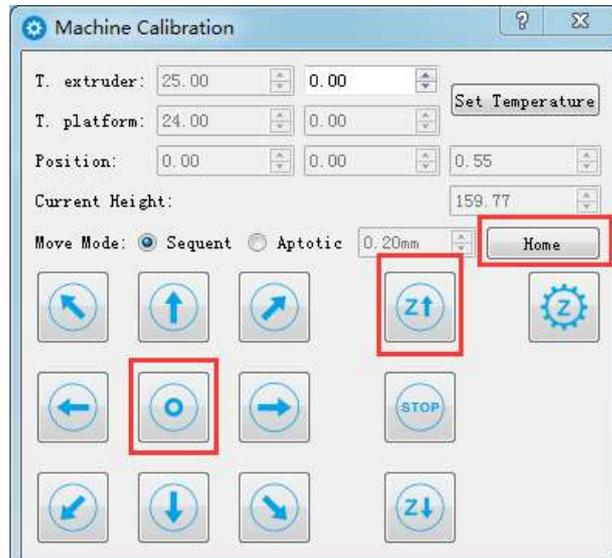

Figure 6.4.2
2. Click “Machine Calibration”, see figure 6.4.2.